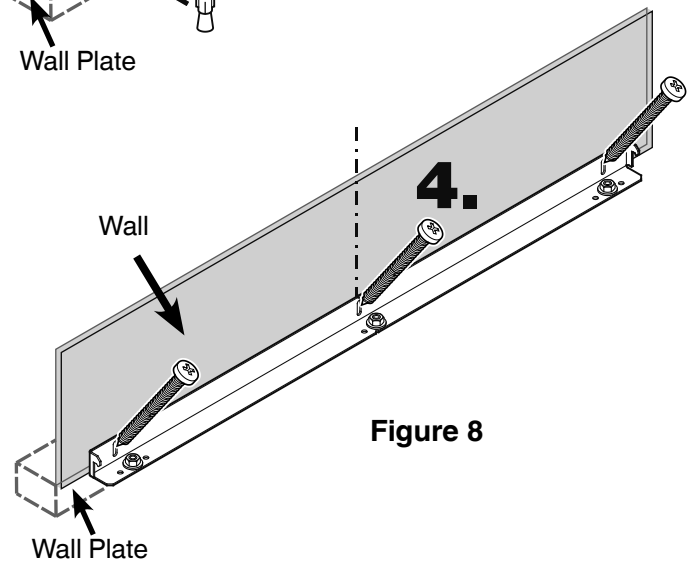

Figure 8
4. Fasten bracket with 3 screws (1/4" x 2-1/8") into the wall plate (**Figure 8**).